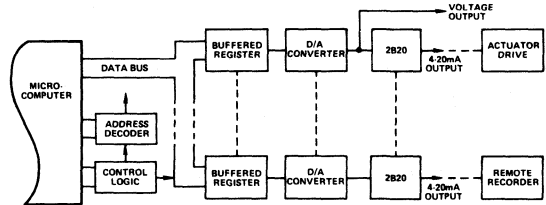

Figure 8. Microcomputer Analog Output Subsystem
**Microcomputer - Current Loop Interface:** Figure 8 shows a typical application of the 2B20 in a multichannel microcomputer analog output system. When a microcomputer is to control a final control element, such as a valve positioner, servo-mechanism or motor, an analog output board with 4 to 20mA outputs is often necessary. The output boards typically have from one to eight channels, each with its own D/A converter. The 2B20, in a compact package, allows for an easy installation without any additional components and offers a 12-bit system compatible performance.